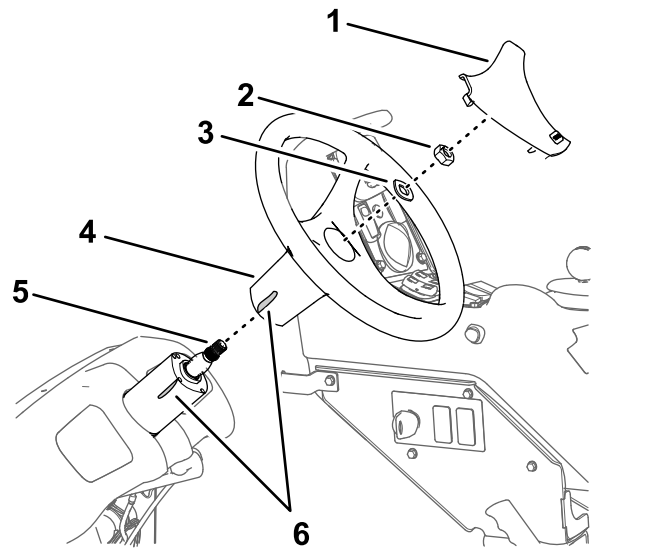

Figure 169
2. Remove the cover from the steering wheel (Figure 169).
3. Remove the nut (5/8 inch) and washer (5/8 inch) that secure the steering wheel to the steering valve, and remove the steering wheel (Figure 169).
1. Mark the position of the steering wheel to the steering valve with a piece of tape (Figure 169).